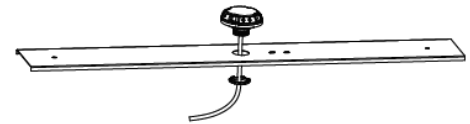

Figure 6
**STEP 2:** Remove the knockout on the cover, and install the sensor (Figure 6). Connect the wiring according to the wiring instructions.